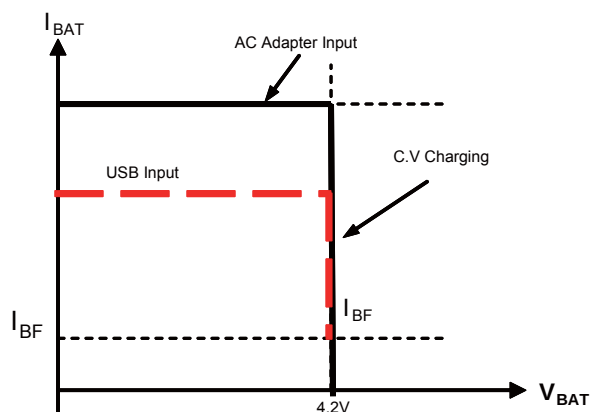

Figure 2—MP26056 Typical Charging Profile
Figure 2 below shows the typical charging profile for the MP26056. The MP26056 will start with the Constant Current charge of the programmed value (I_{CHG}) based on R_{SETX} . This is referred to as Constant Current (CC) mode. Once the battery voltage reaches 4.2V, the charger will operate in the constant voltage (CV) mode until the battery is fully charged. The charge current drops during CV mode, and the battery full indication is set when the charge current reduced to the preset value based on R_{IBF} , but the charger keeps charging the battery until battery reach 4.2V when AC adaptor is used as supply. If USB is